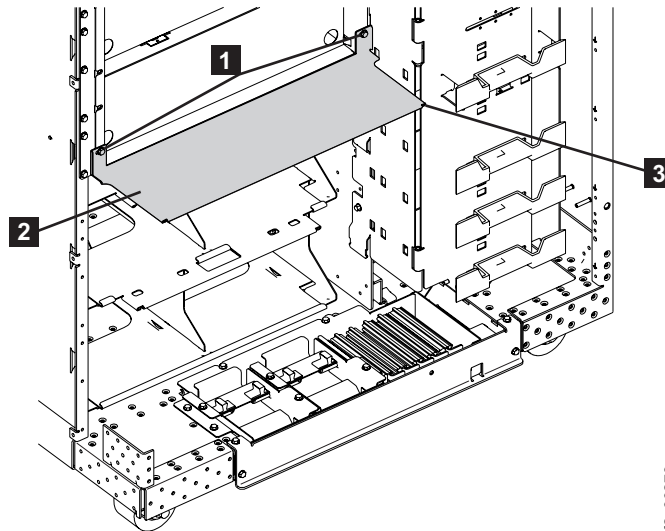

Figure 44. Air baffle
- If you removed the air baffle **2** earlier to allow the 208VDC bus bar to swing open, reinstall it. See Figure 44 on page 49.